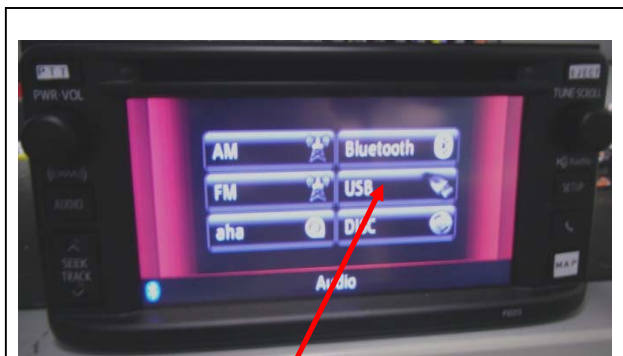

Fig. 10-3
- (c) Select the USB mode button (Fig. 10-3).